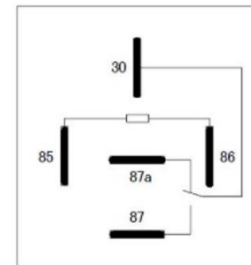

Figure 6 – Connecting discrete output wires of MasterCAN DAC 15 with the power wires of the relay coil
**4)** Connect the discrete output wires of MasterCAN DAC 15 with the wires of the relay connector by twisting them or using clip connectors (see figure 6).